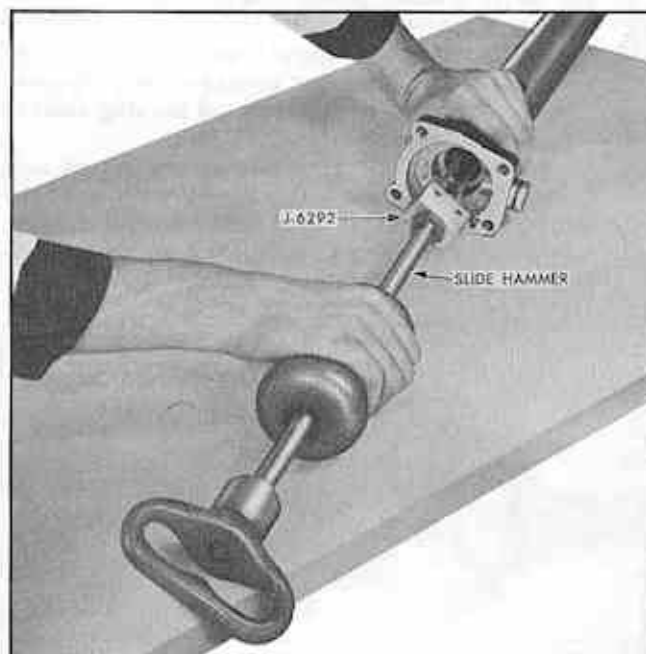

Fig. 62 Removing Bearing and Seal from End Cover
1. Remove end cover oil seal, back-up washer, and bearing, using tool J-6292 with slide hammer. (Fig. 62 shows part of slide hammer J-942.)